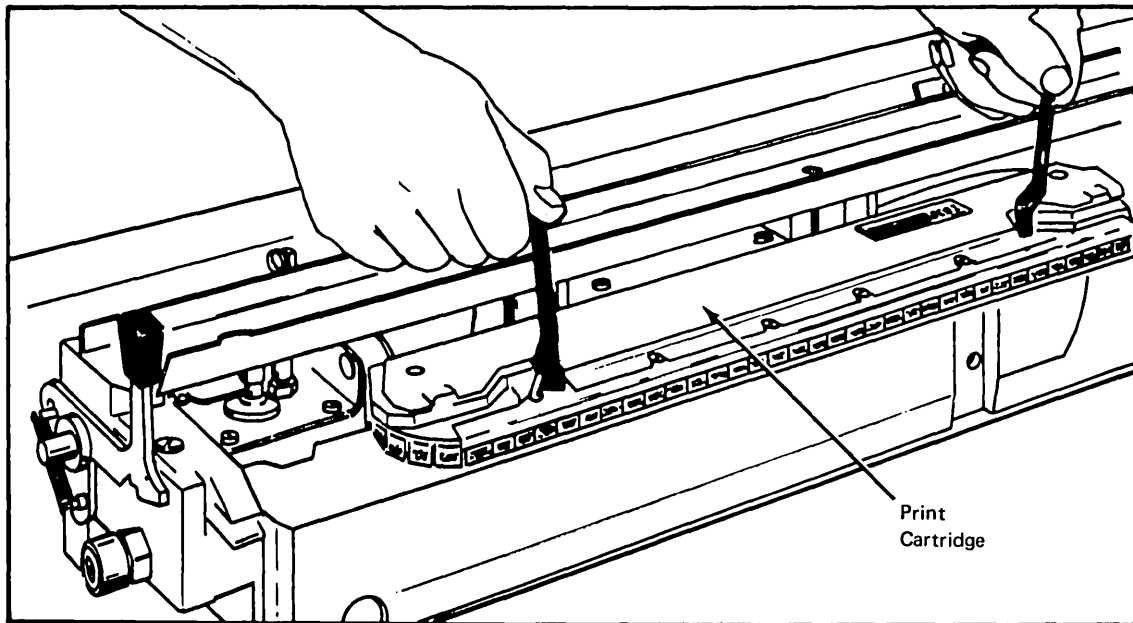

Figure 34. Removing the Print Cartridge
3. Remove the top ribbon spool as described under "Ribbon Changing". Pivot the two handles on top of the cartridge to their upright position so that the cartridge is unlocked (Figure 34). Lift the cartridge free of the print unit by its handles and place the new cartridge on the locating studs.